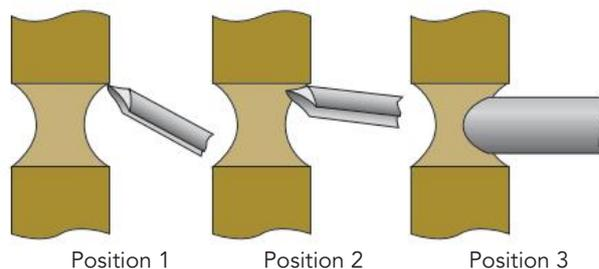

Figure 11.4a Turning hollows or coves with a fine gouge
- Next, place the gouge on its side with the bevel at right angles to the axis of the stock, keeping the handle slightly raised (Figure 11.4a Position 1).
Note that each cutting stroke begins at the top or **shoulder** (largest diameter) and works down to the base of the hollow (smallest diameter) (Figure 11.4a Positions 2–3). The same operation occurs from the left and then the right sides of the hollow. You should swap the position of your hands to make the process easier.